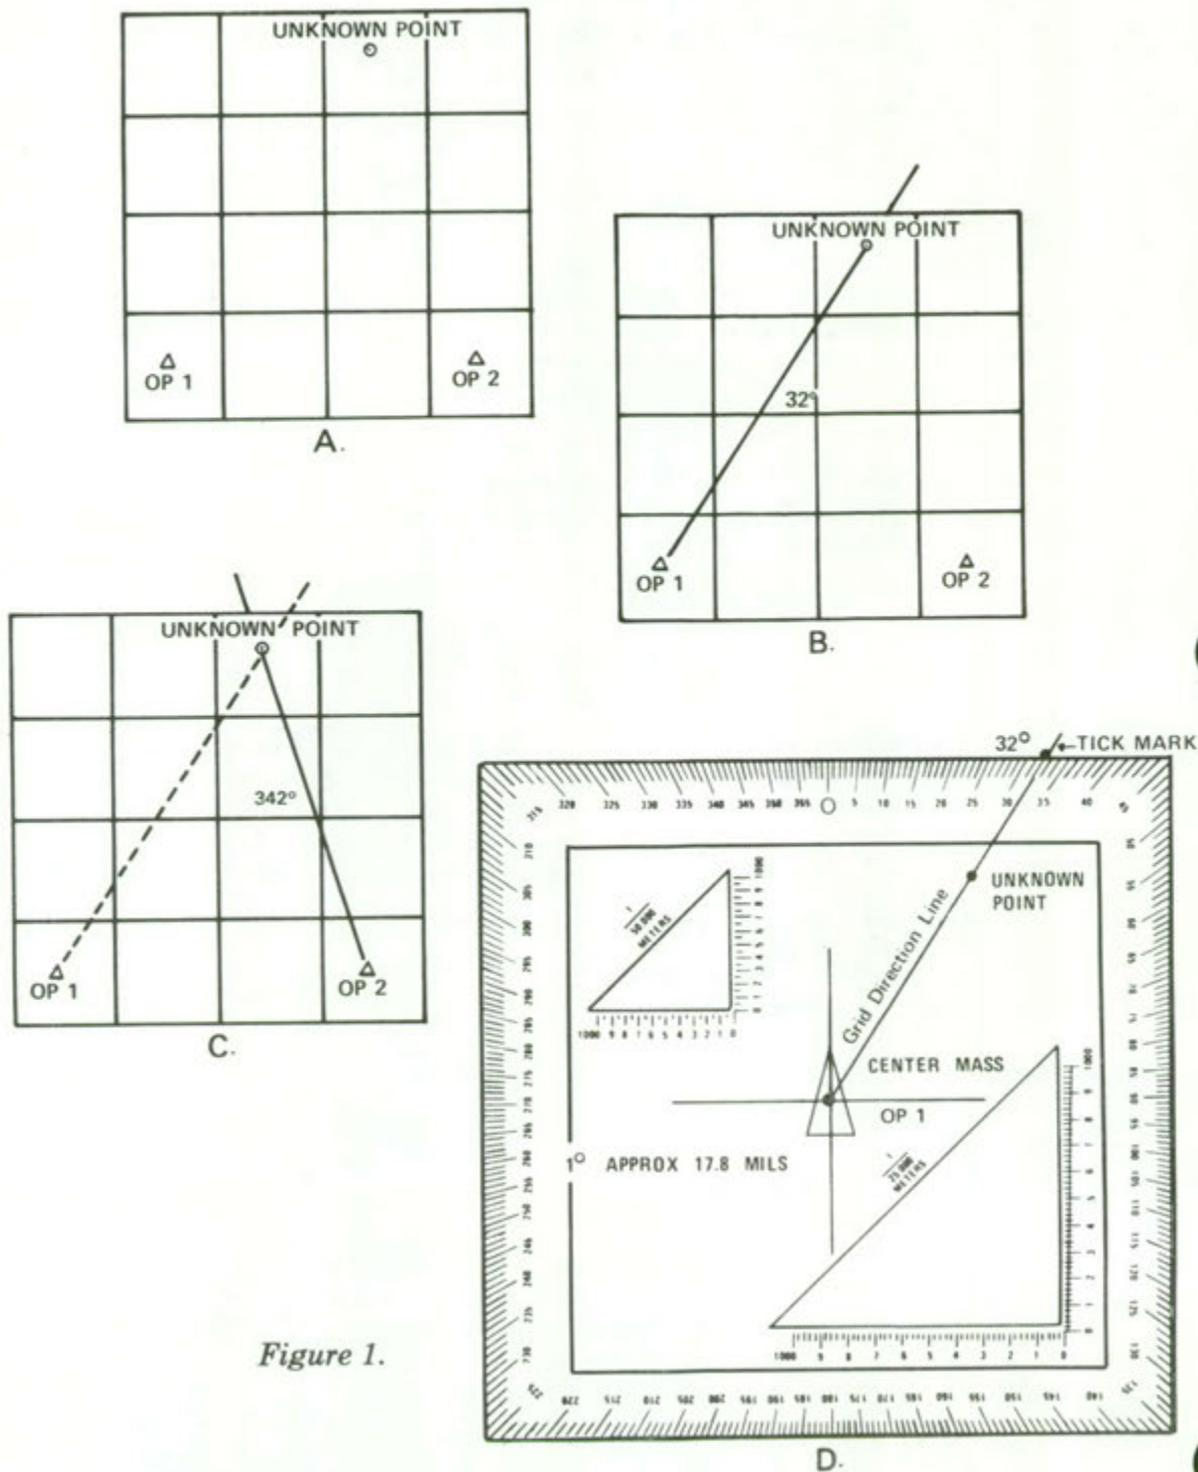

Figure 1.
**1. Map and Compass Method (figure 1).**
- d. Place the protractor on the map, insuring that the zero degree indicator on the protractor is pointing to the top of the map (north) and the index point is placed center mass on your location (figure 1). Place a tick mark on the number of degrees you want to plot. Draw a line on the map from your position on this grid azimuth (32°).